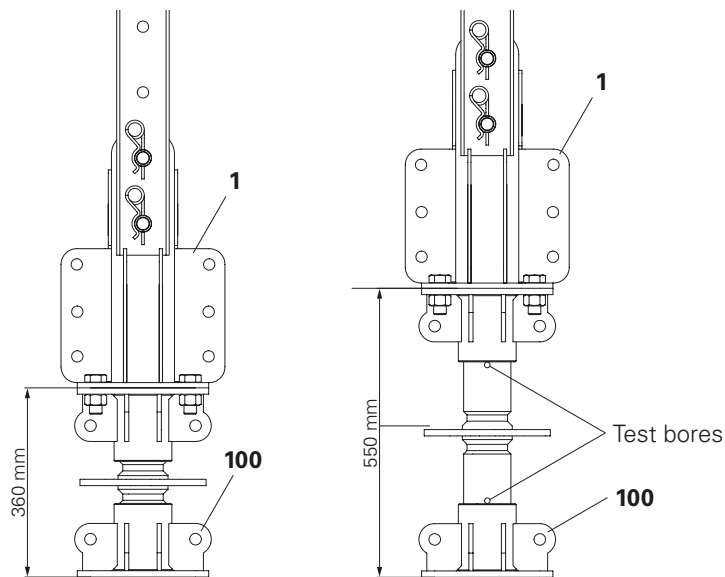

Fig. A1.19
- ⇒ Check bore holes in the spindle serve as a visual check. If the check bore holes cannot be seen when spindling, the spindle is in the permissible range. If the check bore holes can be seen, the permissible range must be realised by taking suitable measures (e.g. turning the Spindles ATS 360-550) before the tower can be subjected to any load. (Fig. A1.19)